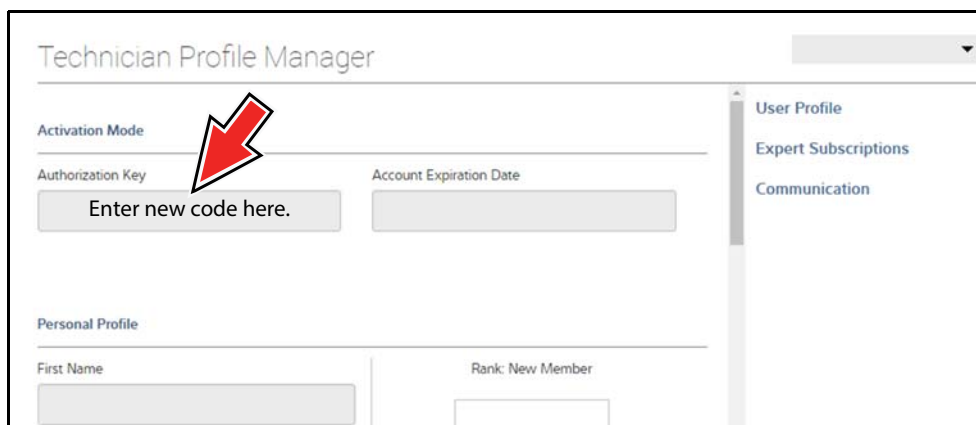

Figure 6-22
7. Enter your new **Authorization code** (Figure 6-22).